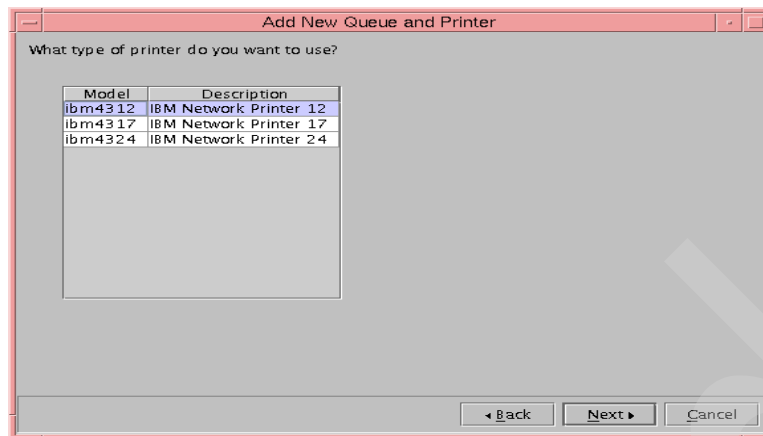

Figure 85. IBM Network Printer model
- From the list shown in Figure 85, we selected **ibm4312** for our IBM Network Printer 12 and clicked **Next**.